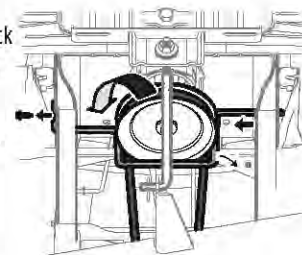

Figure 40
5. Remove the hex screw securing the engine pulley keeper rod to the frame. See Figure 40.